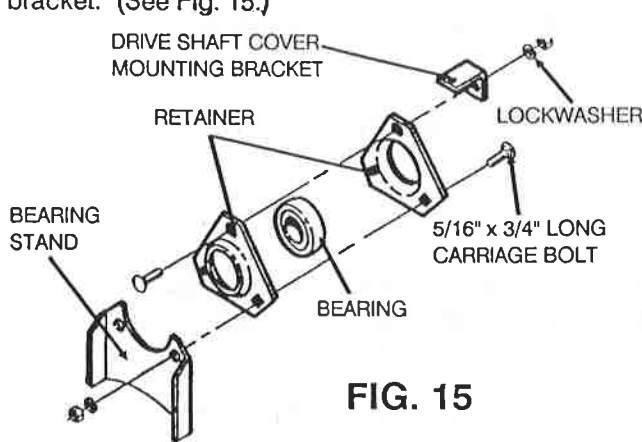

FIG. 15
Step 1. Bolt bearings to weld-on bearing stand at the upper end of the lower auger section. (See Fig. 18 on page 25 for location.) Attach the bearing using two retainers and one drive shaft cover mounting bracket. (See Fig. 15.)